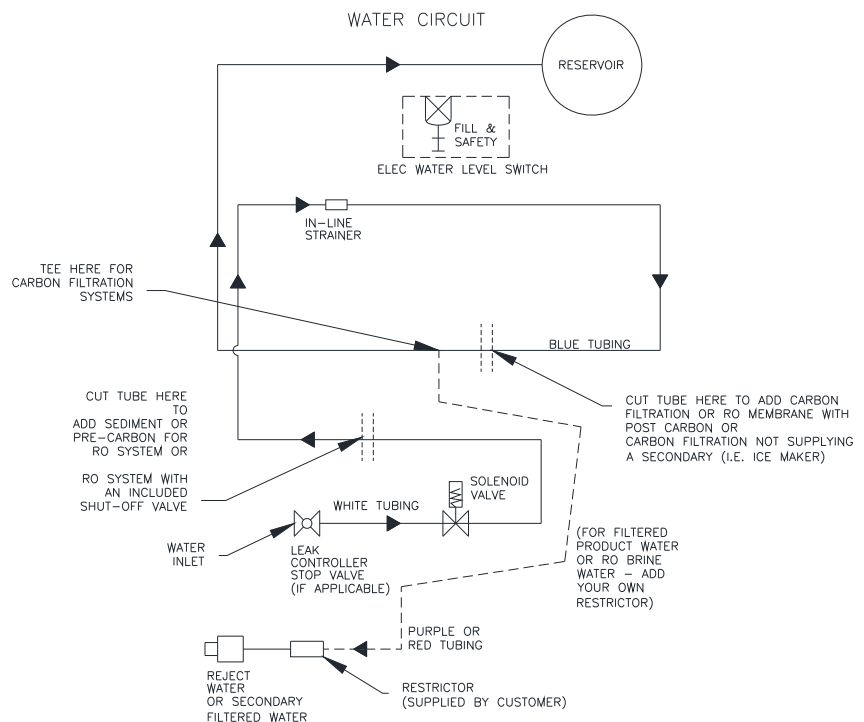

Figure 4
4. See figure 4 for plumbing path. There are three water lines:
6. If you wish to connect a second point-of-use system such as an ice maker, you can use the purple (alternatively it will be red) colored tube already inserted through the column support. You will need to replace the elbow on it with a tee as shown in figure 4.
12. Depending on your system, any pre-carbon filter can be placed in-line on the white tube or blue. The RO membrane must be connected to the blue tubing to work properly. The post carbon would also be on that line (see figure 4).